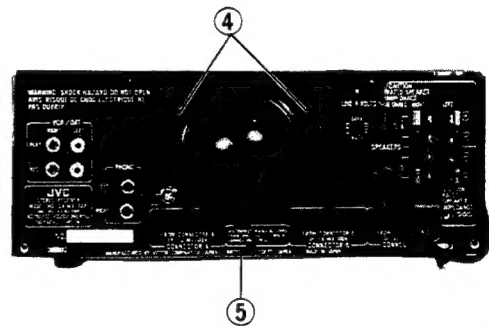

Fig. 2
3. Remove the screw ⑤ fastening the rear side.(Fig.2)